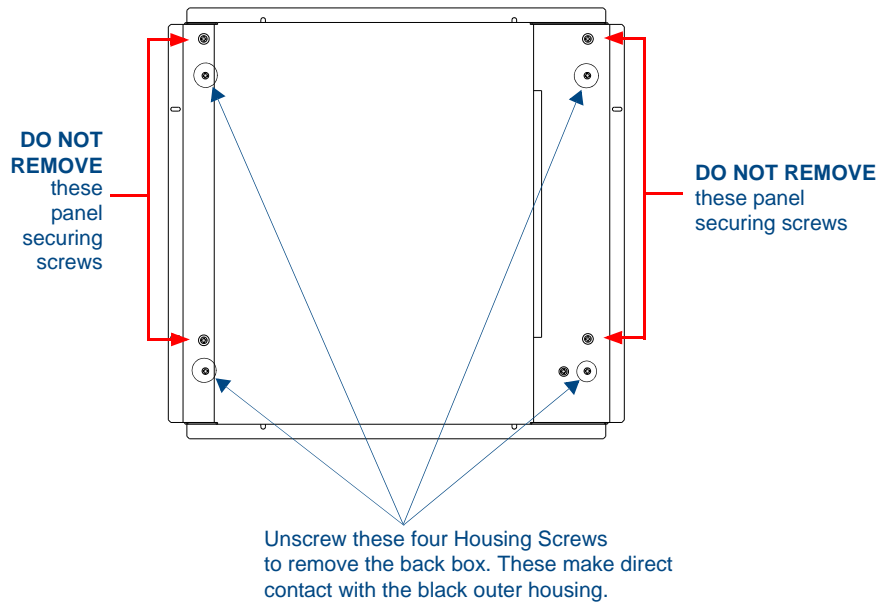

FIG. 23 Location of the securing screws on an NXD panel
2. Place the LCD facedown onto a soft cloth to expose the under-side of the unit (FIG. 23). This step helps prevent scratching of the LCD.
5. Unscrew the four pan-head Housing Screws from the rear of the NXD unit (FIG. 23) and gently remove the outer housing. These four screws secure the back box to the internal panel casing.